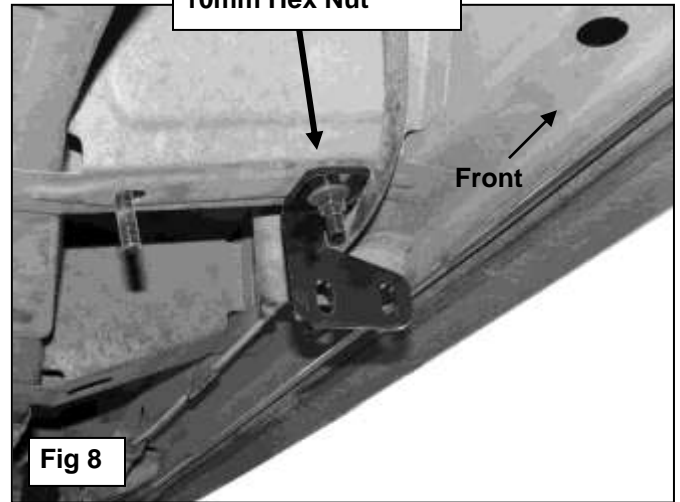

Fig 8
6. Select the driver side Center Support Bracket. Hang the Support Bracket from the outer Bolt Plate with (1) 10mm x 27mm Large Flat Washer, (1) 10mm Lock Washer and (1) 10mm Hex Nut, **(Figure 8)**. Leave loose at this time. Next, repeat to attach the driver side Center Bracket to the inner 10mm Bolt Plate, **(Figure 9)**. Leave hardware loose at this time.